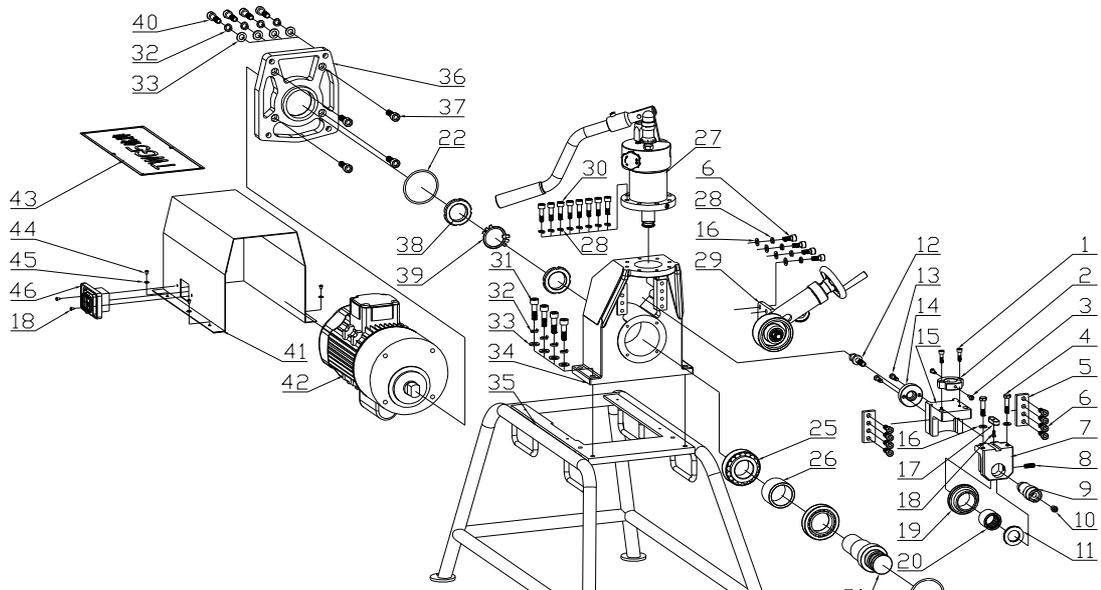

Fig.23
1. TWG-VIA Roll grooving machine component and parts form (Fig.23)